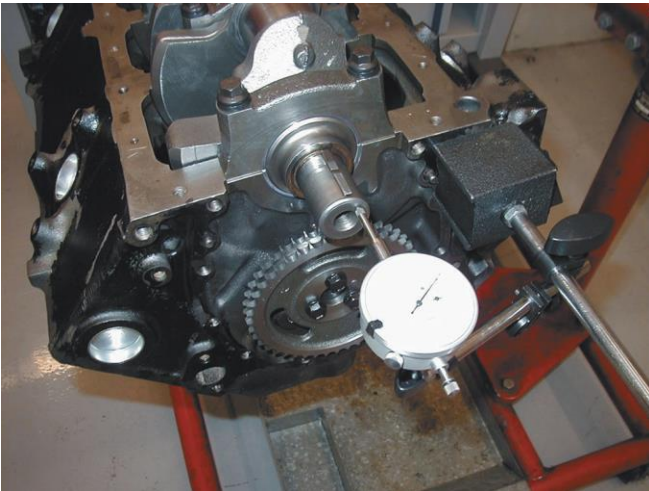

Figure 19. Measuring crankshaft end play
STEP 5 Using a dial indicator, check the crankshaft endplay. Fig.19.